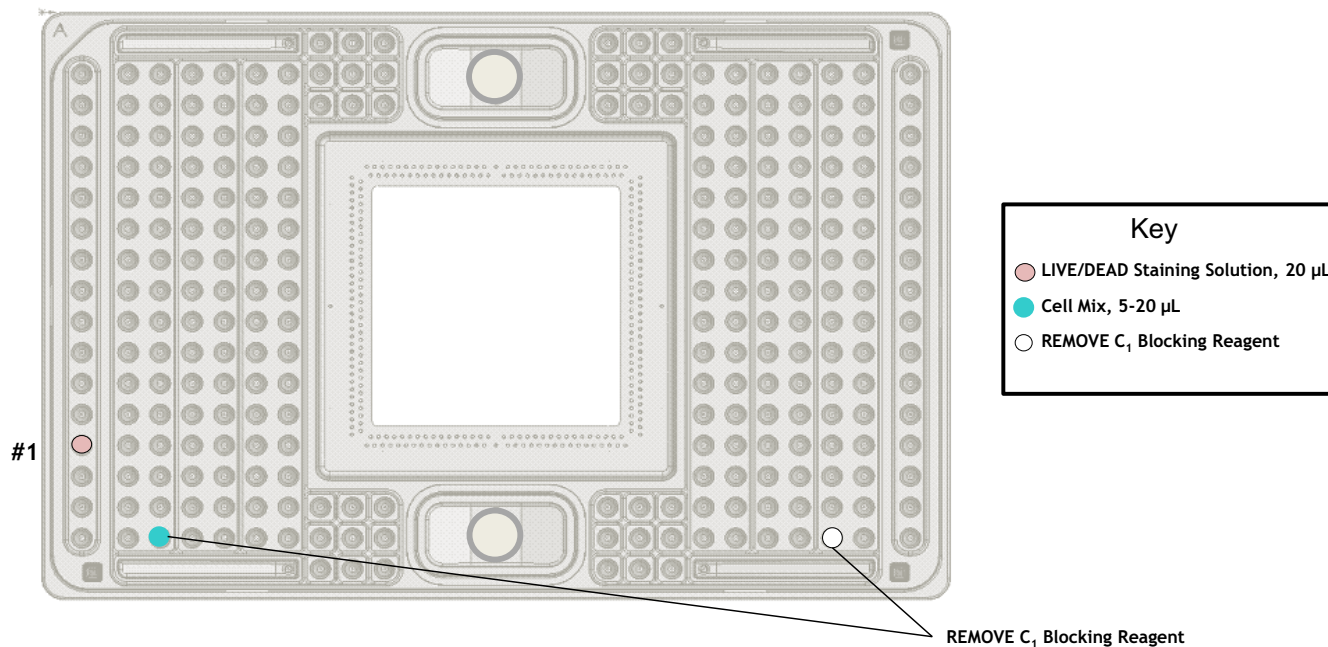

Figure 7 C₁ Chip loading pipetting map
- 2 Remove blocking solutions from cell inlet and outlet marked with teal and white dots in Figure 7.